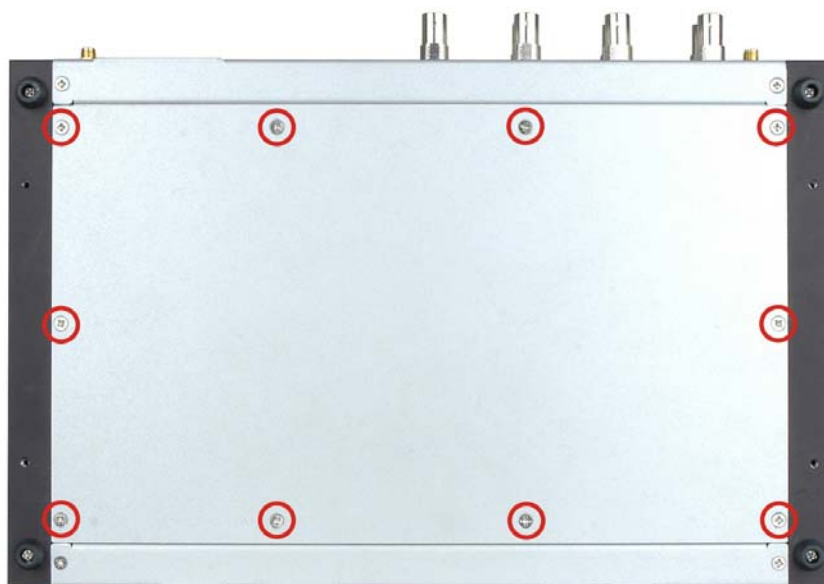

Figure 3-1: Bottom Panel Retention Screws
- Step 1:** Remove the bottom panel by removing the 10 retention screws from the bottom panel (**Figure 3-1**).